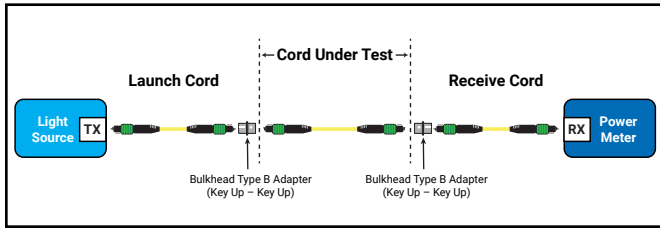

Figure 10b: Unpinned-unpinned test cord verification configuration
7. Connect the receive cord to the power meter, and connect the Cord Under Test between the launch cord and receive cord as shown in Figure 10b.